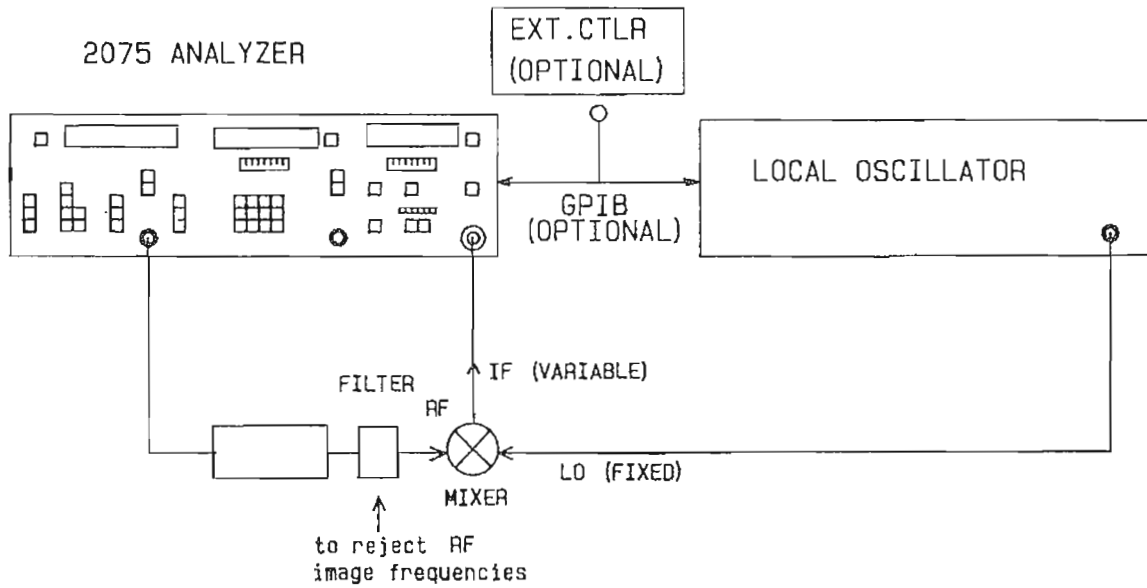

Figure 3-9a. TEST CONFIGURATION 3 CALIBRATION
Figures 3-9a and 3-9b are the connection diagrams for calibration and measurement when external relays are not used. An optional setup can be used where external relays, controlled by the 2075, provide the calibration path. (See Paragraph 3-34, page 3-75.)
1. Connect the test equipment as shown in the calibration setup of Figure 3-9a or the optional setup using external relays for calibration.